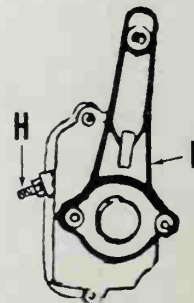

Fig. W2-3 - View showing location of high speed adjusting screw (H). Idle speed screw is located behind speed control lever at (I).
Idle speed is adjusted by turning idle speed screw (I - Fig. W2-3) and high speed is adjusted by turning high speed screw (H). Idle speed should be 1500-1800 rpm while maximum governed speed under load is 3000 rpm.